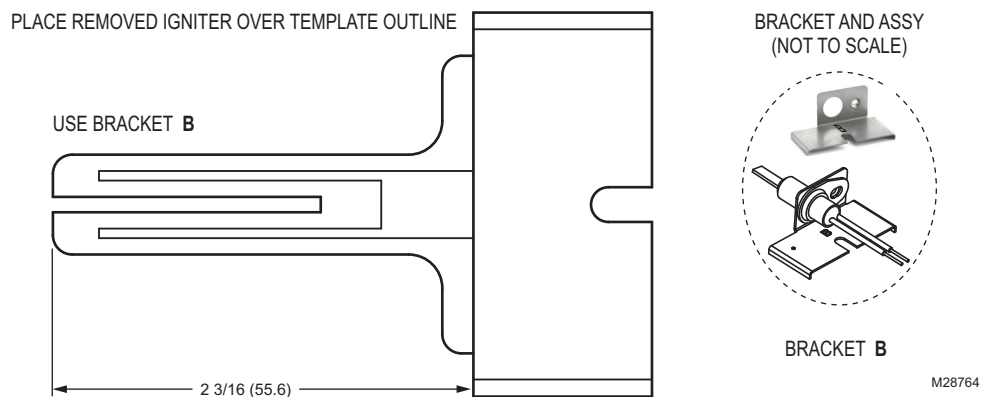
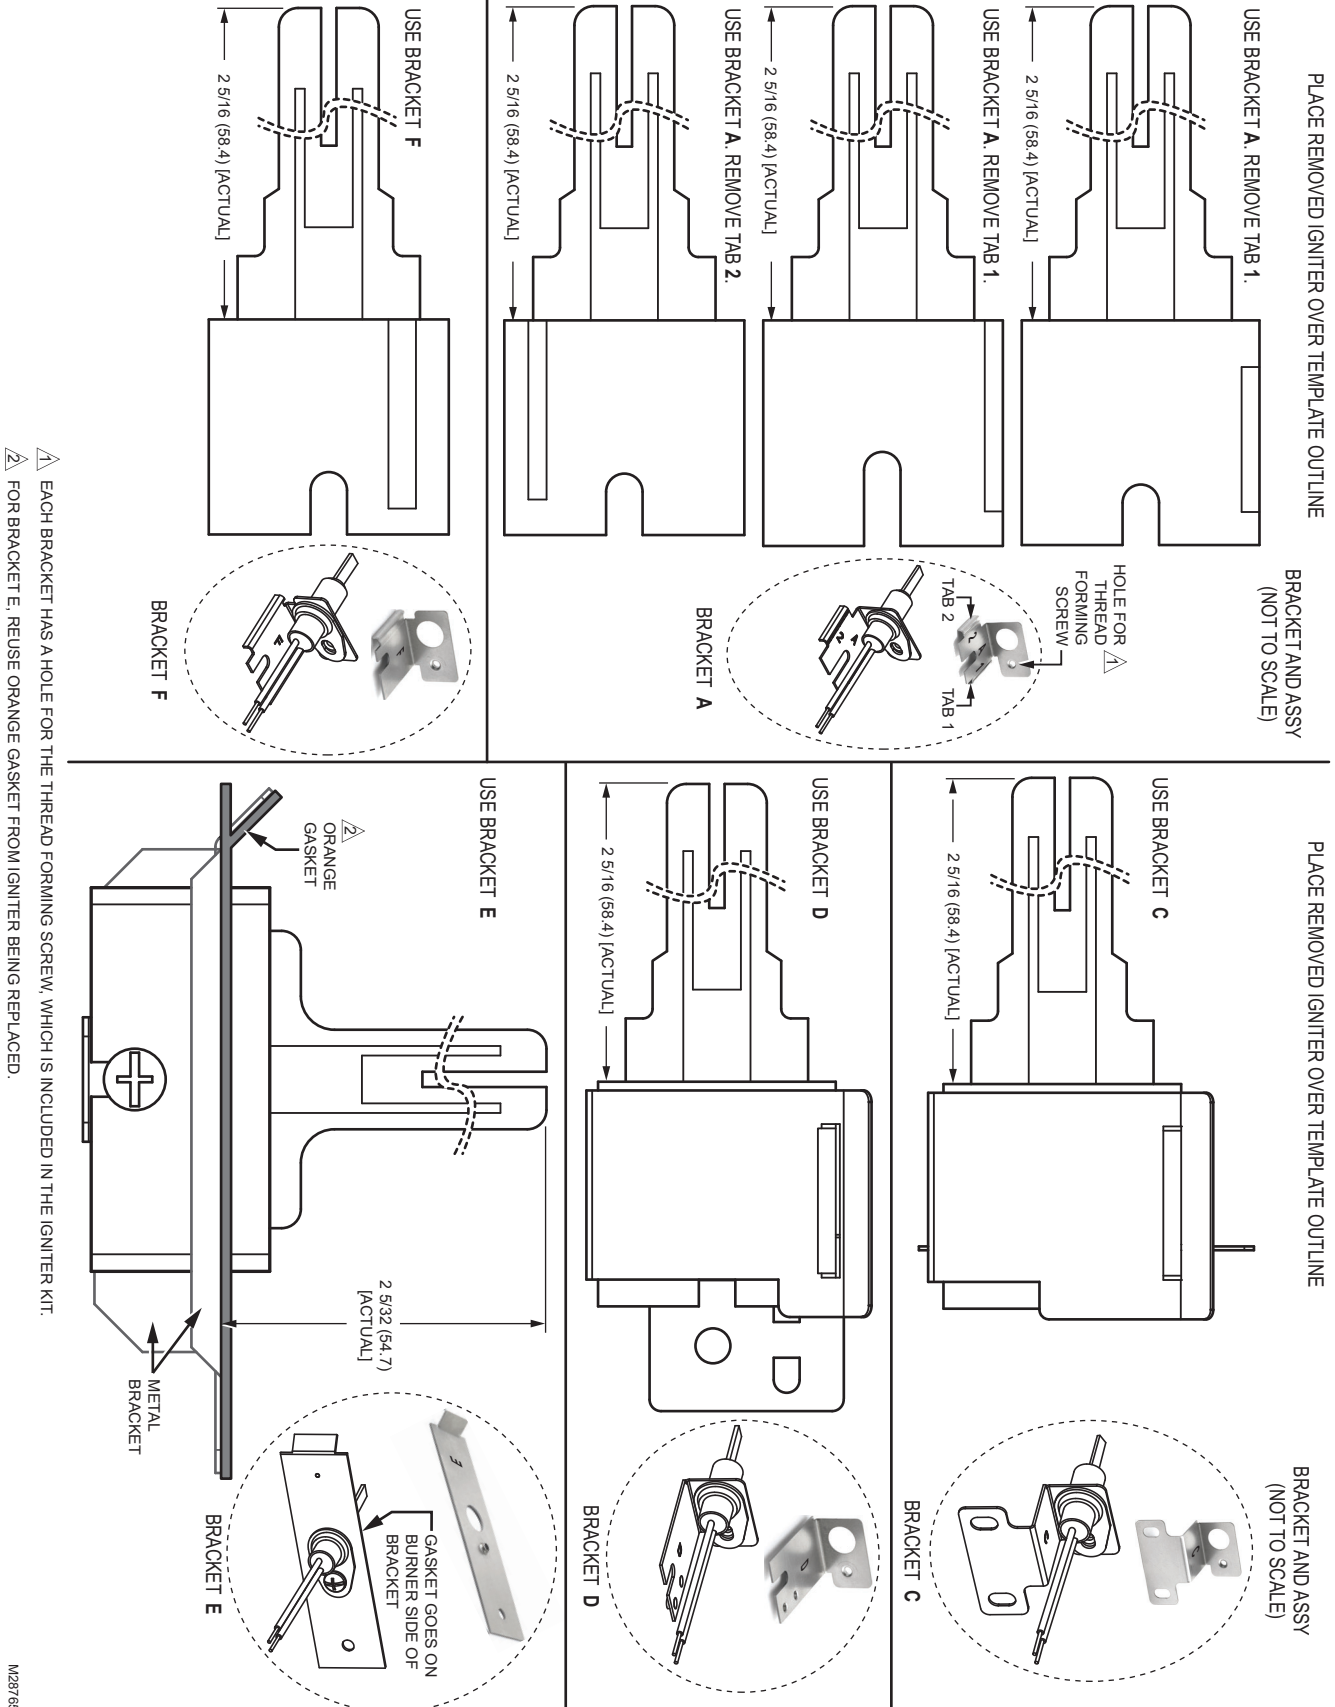

Fig. 2. Igniter bracket B template; dimensions in in. (mm).
Fig. 3. Igniter brackets A, C, D, E, and F template; dimensions in in. (mm).
2. Check the cross reference table on page 5 and the templates (Fig. 2 on page 3 and Fig. 3 on page 4) to make sure the proper igniter bracket is used for your application.
2. Using the bracket selection templates (Fig. 2 and Fig. 3), the cross reference (Table 1), and the original igniter assembly, place the igniter on the templates to confirm which bracket to use for this installation.